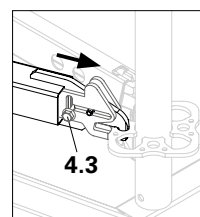

Fig. A1.11d
- Push the slider towards the rosette until the bolt (4.3) falls into the longitudinal groove. (Fig. A1.11d)